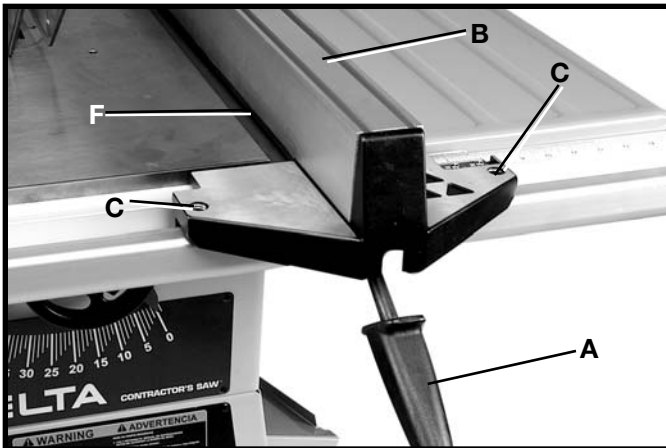
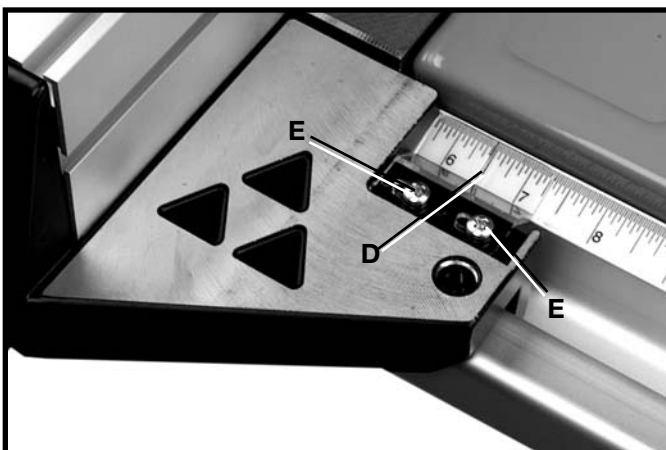

Fig. 46
Fig. 48
1. To move the rip fence, raise the lock handle (A) Fig. 46, as far as it will go and move the fence to the desired position on the table. When the lock handle (A) Fig. 46, is pushed down, clamping action on the rip fence (B) should be adequate. However, if the clamping action is too loose or too tight, an adjustment can be made by equally tightening or loosening two screws (C) as necessary. **NOTE:** It will be necessary to remove the cursor (D) Fig. 48, to make this adjustment
2. Position the fence (B) Fig. 46, along one edge of the miter gage slot (F) as shown and lock the fence in that position. The edge of the fence (B) Fig. 46, should line up parallel to the miter gage slot (F). If an adjustment is necessary, proceed as follows:
3. Tighten or loosen either of two screws (C) Fig. 46, as necessary, until the fence (B) is parallel to the miter gage slot. **NOTE:** It will be necessary to remove the cursor (D) Fig. 48, to make this adjustment. Readjust the clamping action on the fence; if necessary, refer to **STEP 1**. Re-assemble the cursor.
5. Depending on the type of saw blade being used, the cursor (D) Fig. 48, may need adjustment to compensate for the blade thickness. To adjust the cursor, make a test cut on a piece of lumber and measure the finished cut, or you can place the rip fence against the blade as shown earlier in the manual. If a minor adjustment is necessary, loosen two screws (E) Fig. 48, and move the cursor (D) as necessary.